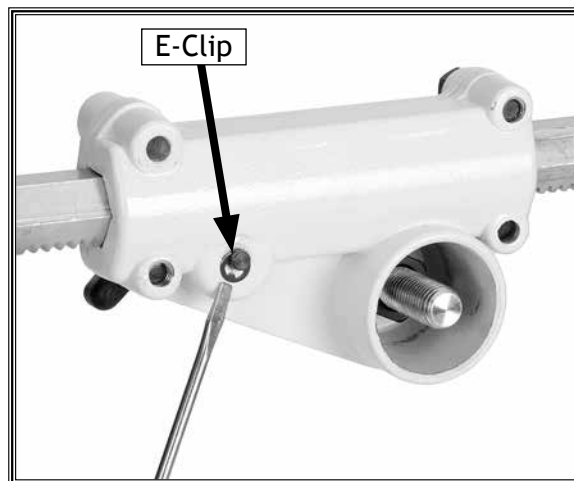

Figure 31. Horizontal movement handle E-clip.
13. Place the E-clip on the end of the horizontal crank to retain the crank, as shown in **Figure 31**.